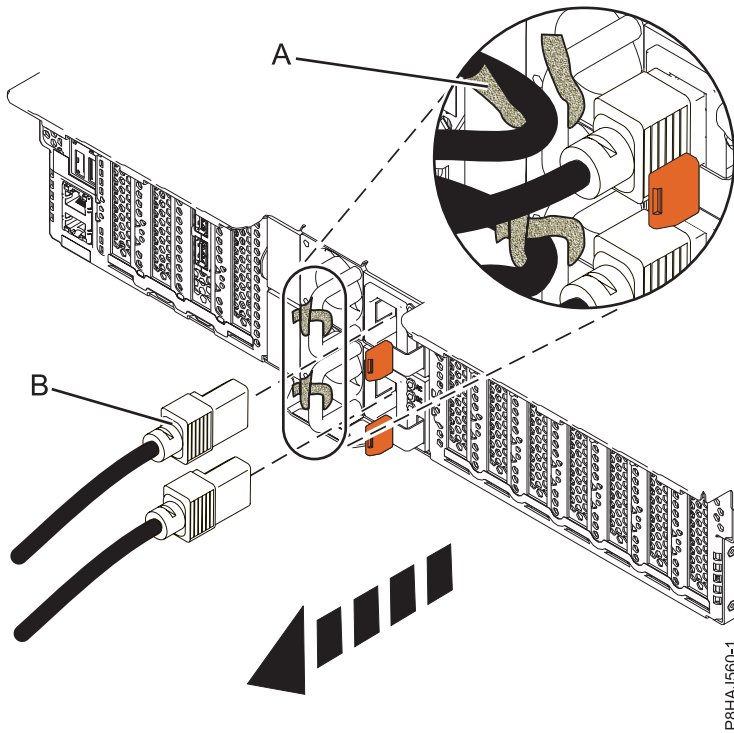

Figure 36. Removing the power cords from a 8247-21L, 8247-22L, or 8284-22A system
3. Disconnect the power cords (**B**) from the system unit. See figures Figure 35 on page 47 and Figure 36 on page 47 depending on the type of your system.